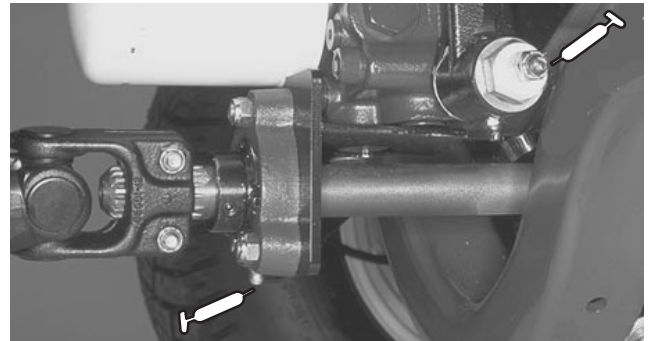

Figure 42
Drive shaft support bearing (1), Rear axle drive shaft (3) (Fig. 42); Brake pedal (1) (Fig. 43); Lift cylinders (5) (Fig. 44) and Fan shaft (Fig. 45).